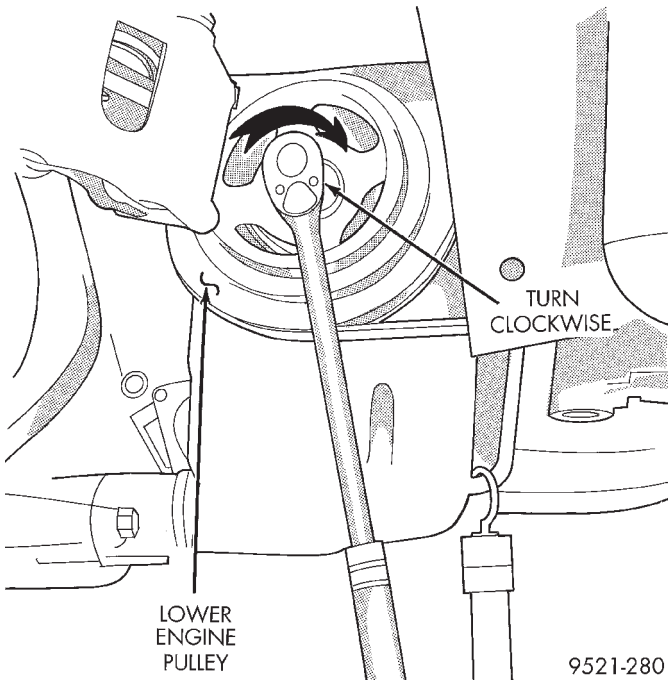
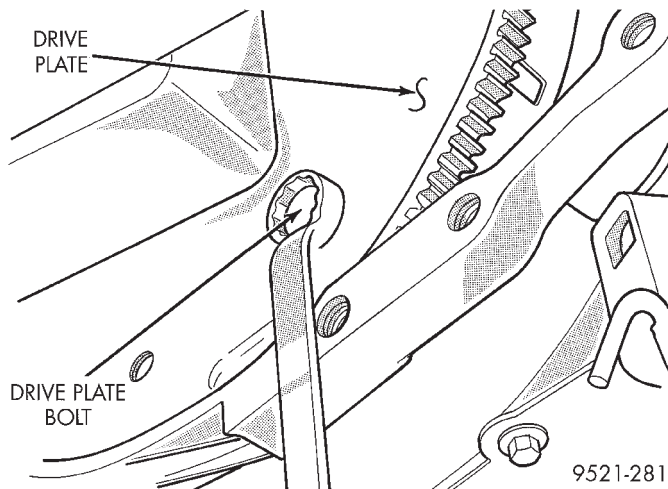

Fig. 50 Rotate Engine Clockwise
Fig. 51 Converter Bolts
- (22) Remove flex plate cover.
- (23) Rotate engine clockwise to line up converter bolts (Fig. 50). Remove converter bolts (Fig. 51). Mark converter for reassembly ease .